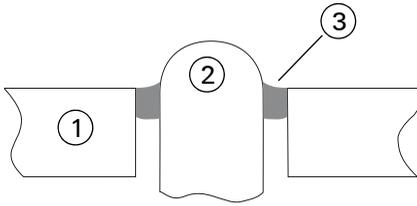

Fig. 5: Sealed LED
- 3 If an IP22 rating is required additional sealing must be applied. Apply Loctite S 1595 silicone sealant around the LED, as shown in Fig. 5. Note how the sealant fills the small gap between the LED and its hole in the cover.